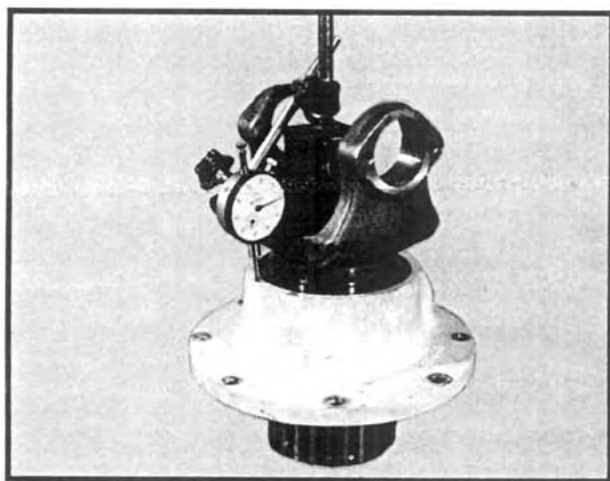

Fig 18
1. To facilitate reassembly, the end float of the shaft should be checked prior to disassembly. Install a dial indicator with a magnetic base as pictured in Figure 18. Lift upward on the carrier and note the amount of end float.